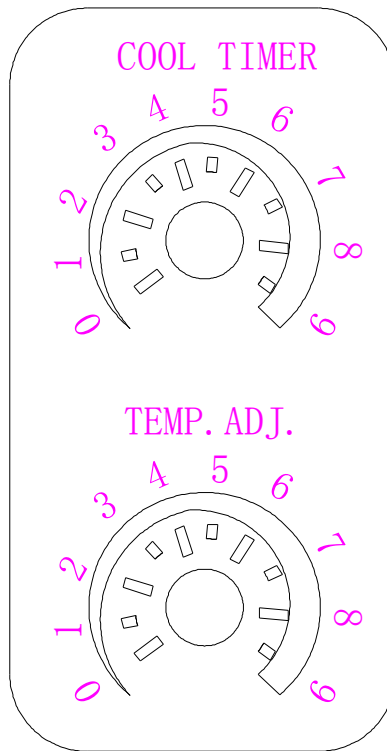

FIG 3-6
- ① Temperature adjustment (TEMP.ADJ): Open the cover plate of the control cabinet at the side of the control panel of the machine, and you will see a potentiometer obviously. Turn it in the clockwise direction and the temperature will increase. If the temperature is higher or lower than what it should be, the adhesion effect will not be as good as it should be. Therefore do not adjust too much for once. Unless the difference in voltage is too great, adjust it to be between 4 and 5, that's ok (show as FIG3-6).
- ② Cooling time adjustment (COOL TIMER): In general, it is enough to adjust the temperature of the heater, but because of different strap types, materials, changes in surrounding environment like climate and cold rooms, and other factors such as strapping packages of hard object or those with strong rebound, sometimes if you just adjust the temperature, it may not reach the perfect melting point. In such an instance, the time adjuster can adjust (extend) the time for the bonding (cooling) of the two strap ends. The longer the cooling time is, the better the adhesive strength is. Turn it clockwise, the cooling time is longer, and it was adjusted to be 0 second before delivery, (as shown in FIG 3-6).
- ③ Tension adjustment: There is a potentiometer button marked "TENSION" on the switch. Turn it clockwise, the tension increases. If the strap still cannot be tightened after you turn it for a very large scale, you have to tension the tension spring.